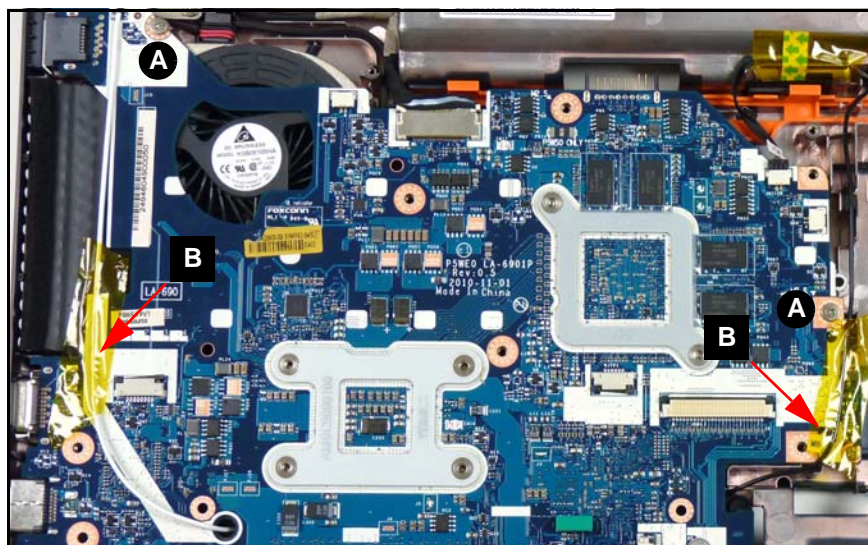

Figure 3-44. Mainboard Screws & WLAN Antennas
2. Remove two (2) screws (A) from lower cover (Figure 3-44).
4. Lower right side (B) of mainboard until edge is flush with lower cover.
5. Install and secure WLAN cables (B) to mainboard with adhesive tape. Refer to Figure 3-44.
6. Install and secure two (2) screws (A) to lower cover.
5. Flip computer over to show mainboard. (Figure 3-44)
6. Remove adhesive tape securing WLAN cable (B) to mainboard and lower cover.